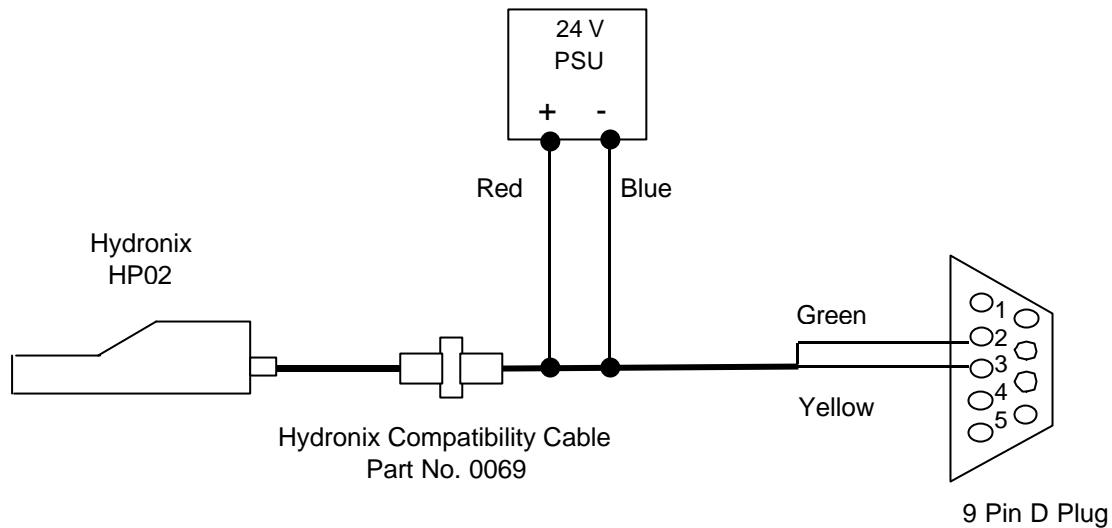

Figure 2 : How to Connect HP02 to Alkon 9102 Display Unit
- A Hydronix HP02 can be used as a swap out replacement for Alkon 7102 moisture sensor. using only standard Hydronix parts and configurations (See Figure 2, 3).
Then, with the system connected as in Fig 2 above, adjust the Zero pot on the front of the Alkon display unit as described in the 'Normal Calibration Procedure' section of the Alkon moisture system manual.